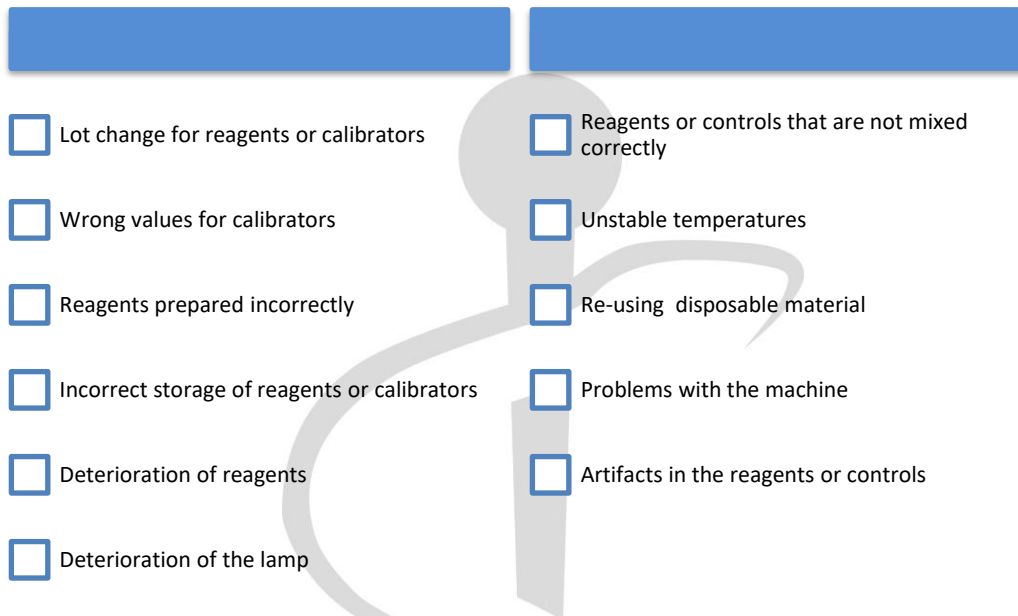

Figure 1: Causes for Systematic and Random Errors (Source: Course: Como hacer un buen control de calidad from Dr. Andreas Rothstein)
- Systematic or random error should be reevaluated by taking corrective action or consulting with the supervisor or quality control coordinator (Figure: 1).
Inspect the Levy-Jenning's plots to determine the rule that has been violated and the type of error (Figure: 1 & 3):